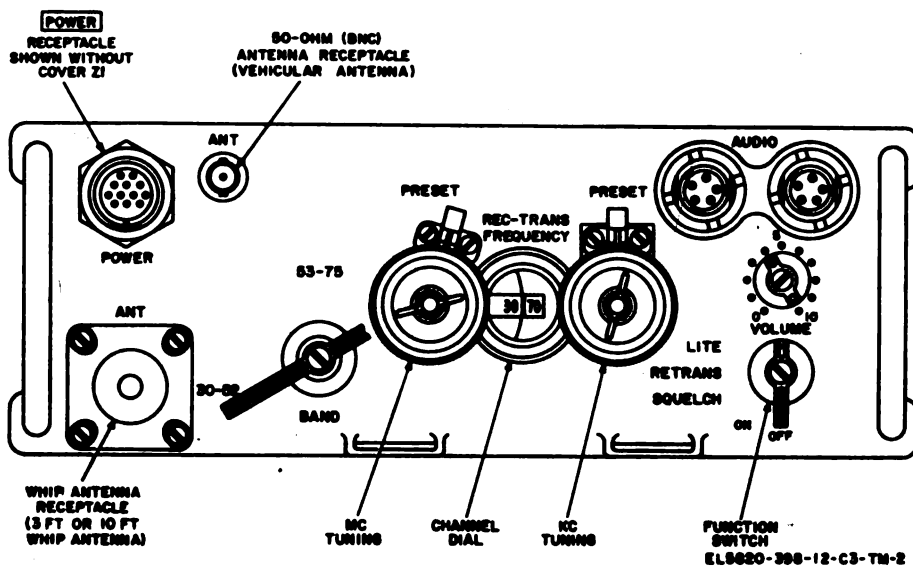

Figure 3-1. Receiver-transmitter, controls, indicator, and connectors.
(1) Remove the cover from the ANT mount (fig. 3-1).
(2) Screw the bottom of the AT-892/PRC-25 into the ANT mount. Make sure AT-892/PRC-25 is tightened down fully; check its tightness often. See caution in *d* below.
(2) Screw Support, Antenna AB-591/PRC-25 into the ANT mount.
3-1. Receiver-Transmitter, Radio RT-505/PRC-25, Controls, Indicators, and Connectors (fig. 3-1)
3-2. Presetting Channel Frequencies (fig. 3-1 and 3-2)
On the mc and kc controls (fig. 3-1) are preset levers that can be set to catch the stops on each control (fig. 3-2). Thus, when two channels are preset, they can be selected without looking at the channel dial (fig. 3-1). Use the procedures in *a* below to set the kc control; use the procedures in *b* below to set the mc control.
3-3. Selecting Preset Channels (fig. 3-1 and 3-2)
3-4. Operating Procedure (fig. 3-1)